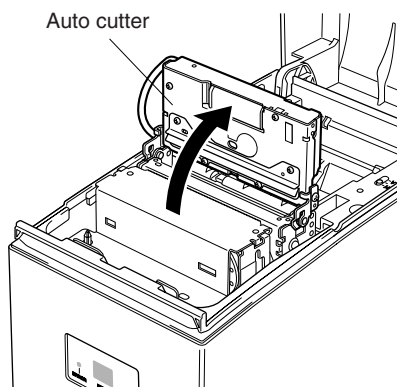

Fig. 5-9 Raise the auto cutter
- ③ Lift up the auto cutter and put it in a vertical position, as shown in Fig. 5-9.
- ③ For auto cutter models, lift up the auto cutter and put it in a vertical position as shown in Fig. 5-9.